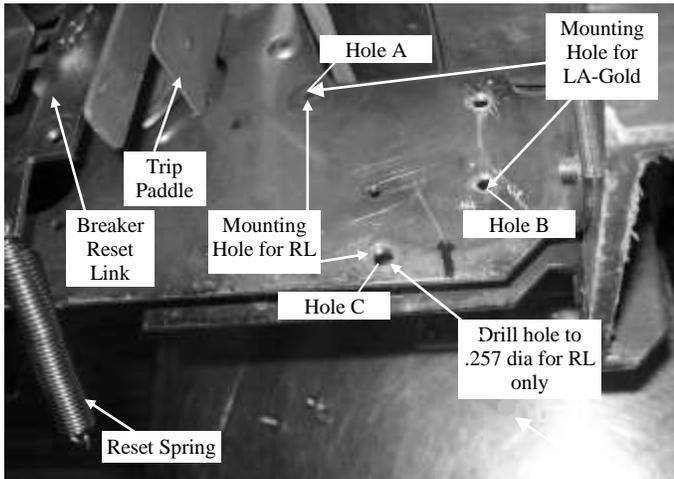
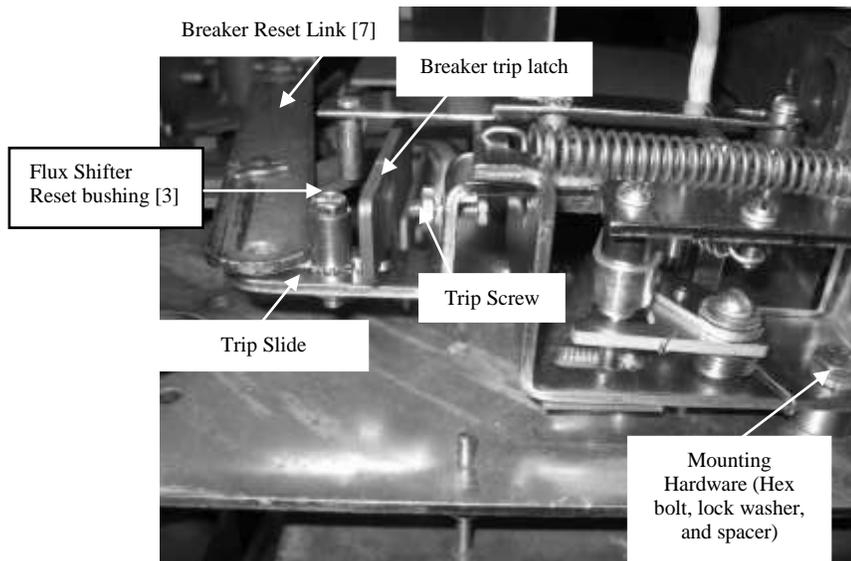

Figure 4. Flux shifter mounting area
Figure 6: Flux shifter assembly installed, as viewed from the side of the breaker (LA-3000/4000 shown).
1. Locate the flux shifter mounting hole, shown in Figure 4.
2. For LA Gold breaker Install the new flux shifter assembly as shown in fig 6. For LA gold units, the # 6 screw protruding from the back of the flux shifter assembly will plug in to the mounting hole A (Figure 4) and position lower mounting hole of the assembly over mounting hole B (Figure 4).
By using mounting spacer, Hex bolt and lock washer (provided in hardware kit) secure flux shifter assembly to breaker mechanism side plate as shown in fig 6.
Before installing flux shifter assembly, loosen reset-bushing screw as shown in figure 6, so that reset bushing's position can be adjusted between breaker reset link and breaker trip latch while unit is being positioned for mounting.
3. For RL breakers install the flux shifter assembly as shown in figure 5(a and b) for RL units. The #6 screw protruding from the back of the flux shifter assembly will plug in to mounting hole A (Figure 4). Before mounting flux shifter assembly, remove the mounting hardware (flat-head screw, washer, lock washer) secured to RL mounting plate and reinstall as shown in fig 5(a) after unit is properly positioned over drilled out mounting hole C.